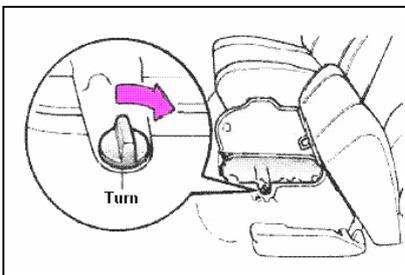

Fig.23
- Turn the knob to open the cover (Fig.23)